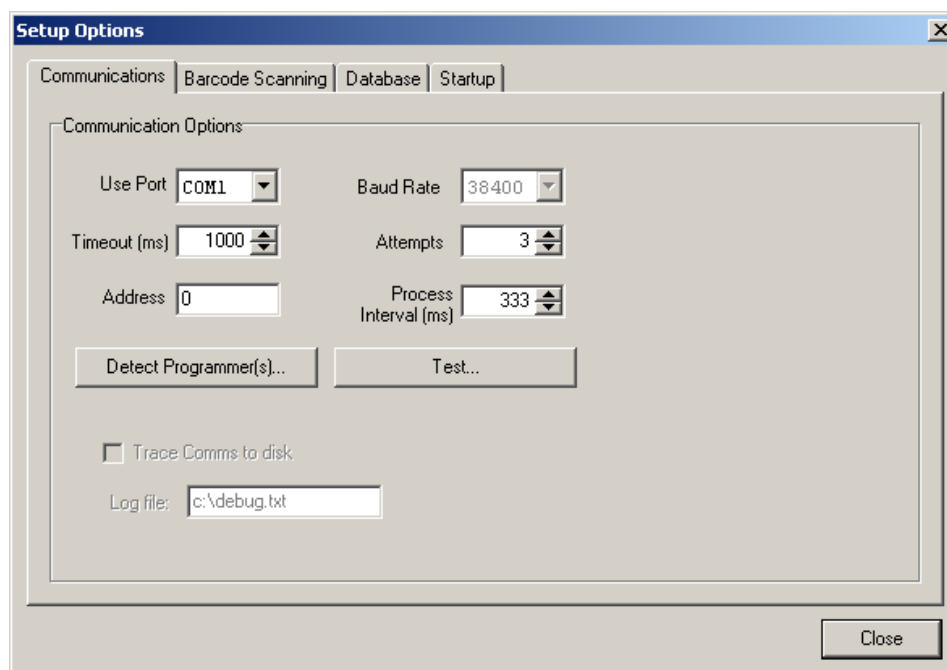

Figure 10 Communications Options
2. Select the *Communications* tab, as depicted in Figure 10